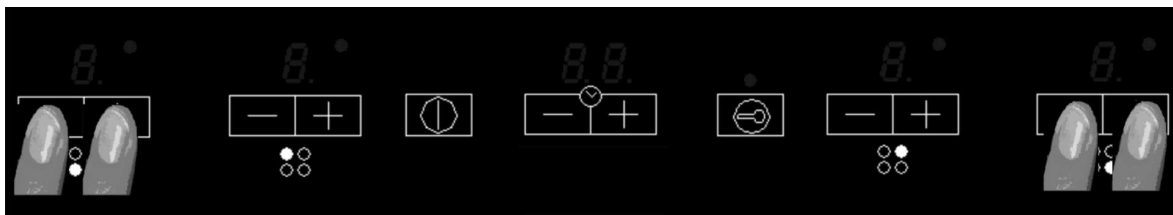

FIG. 17
- press the front left heating element 7 and the front right heating element 6 selection keys together (see fig. 17);